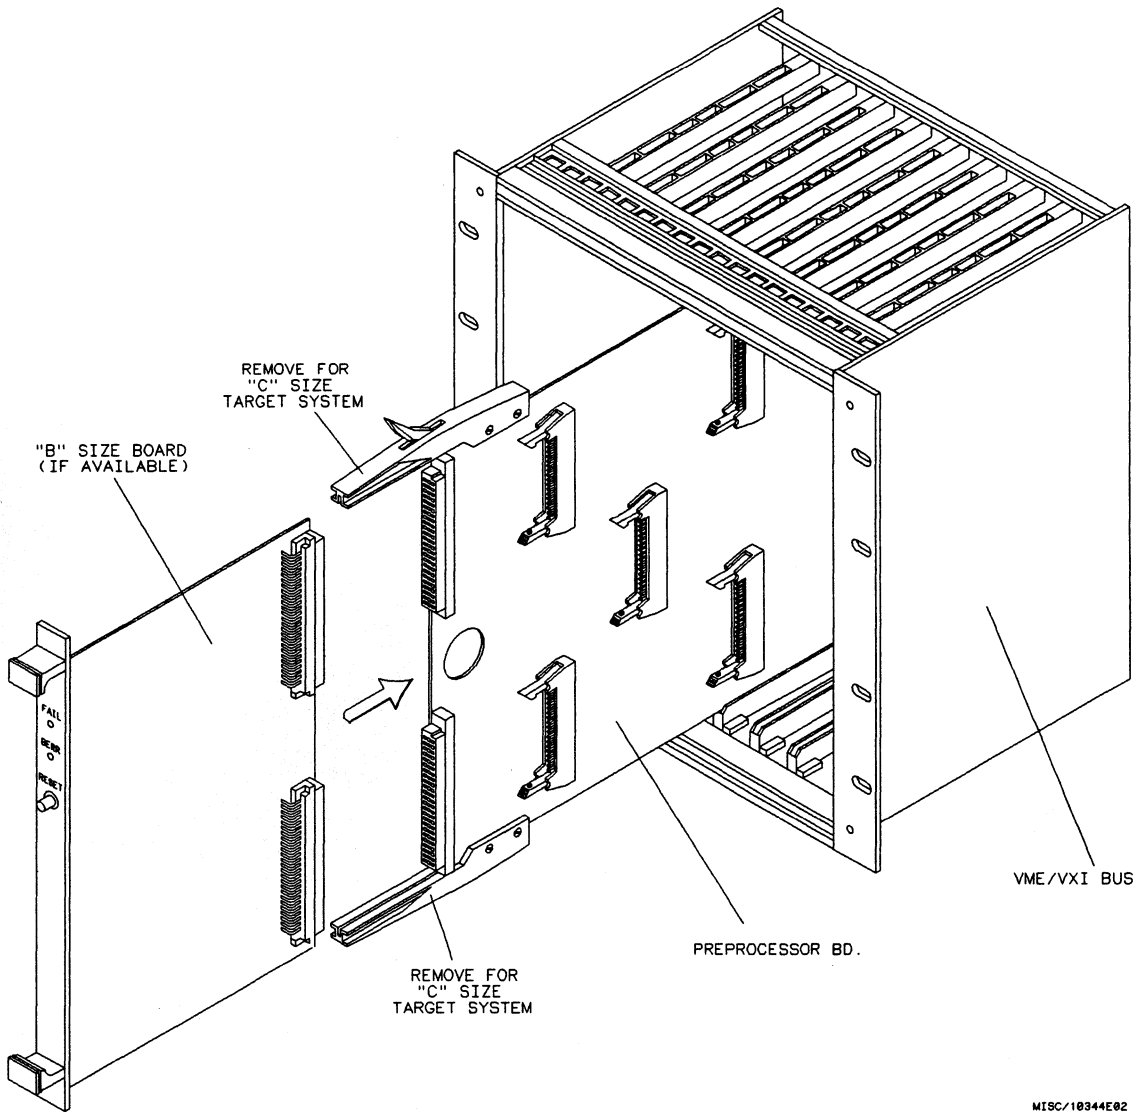

Figure 2-3. Installing the HP E2441B Board
2. If you are installing the preprocessor interface board into a "C" size target system, remove the two board supports from the preprocessor interface board (see figure 2-3).
3. Align the HP E2441B Preprocessor Interface board with the appropriate slot on the target system, and plug the board into the connectors (see figure 2-3).
4. If the HP E2441B Preprocessor Interface board is being used as an extender board in a "B" size target system, align the appropriate VME/VXI board with the slot on the end of the HP E2441B Preprocessor Interface board. Then plug the VME/VXI board into the connectors on the HP E2441B Preprocessor Interface board (see figure 2-3).